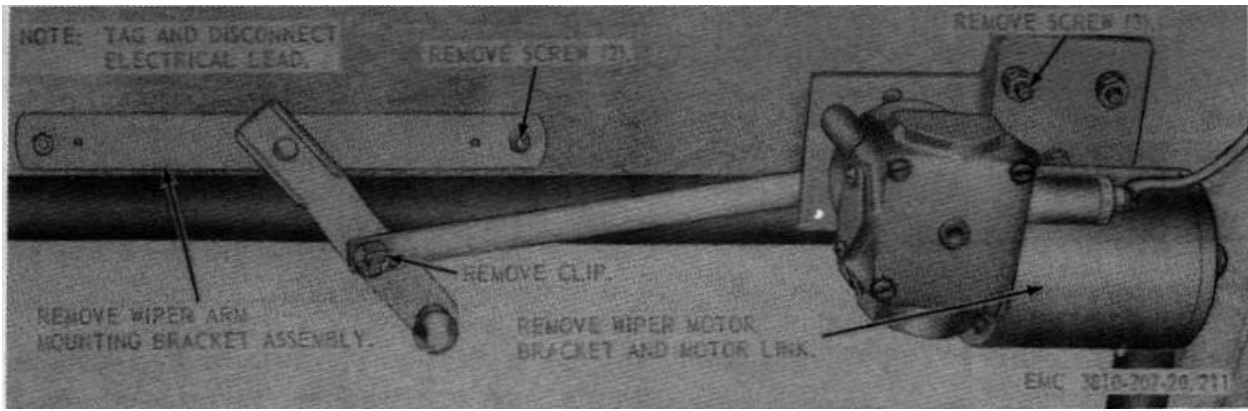

Figure 211. Carrier cab windshield wiper, removal and installation.
a. *Removal.* Remove the windshield wiper as instructed on figure 211.
- (1) Clean all parts with a cloth dampened with an approved cleaning solvent and dry thoroughly.
- (2) Inspect for breaks, bends, and other damage. Replace damaged parts as necessary.
- (3) Inspect for proper operation. Replace defective windshield wiper as necessary.
c. *Installation.* Install the windshield wiper as illustrated on figure 211.